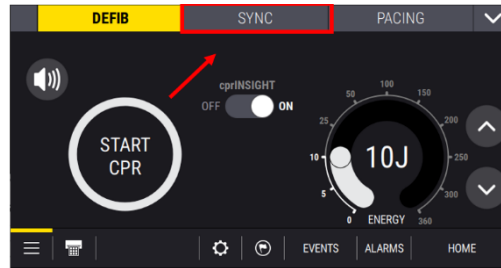

Figure 5
4. Enter SYNC MODE by pressing the Therapy Menu button, then pressing the Sync option on the display as shown in the following Figure 5.